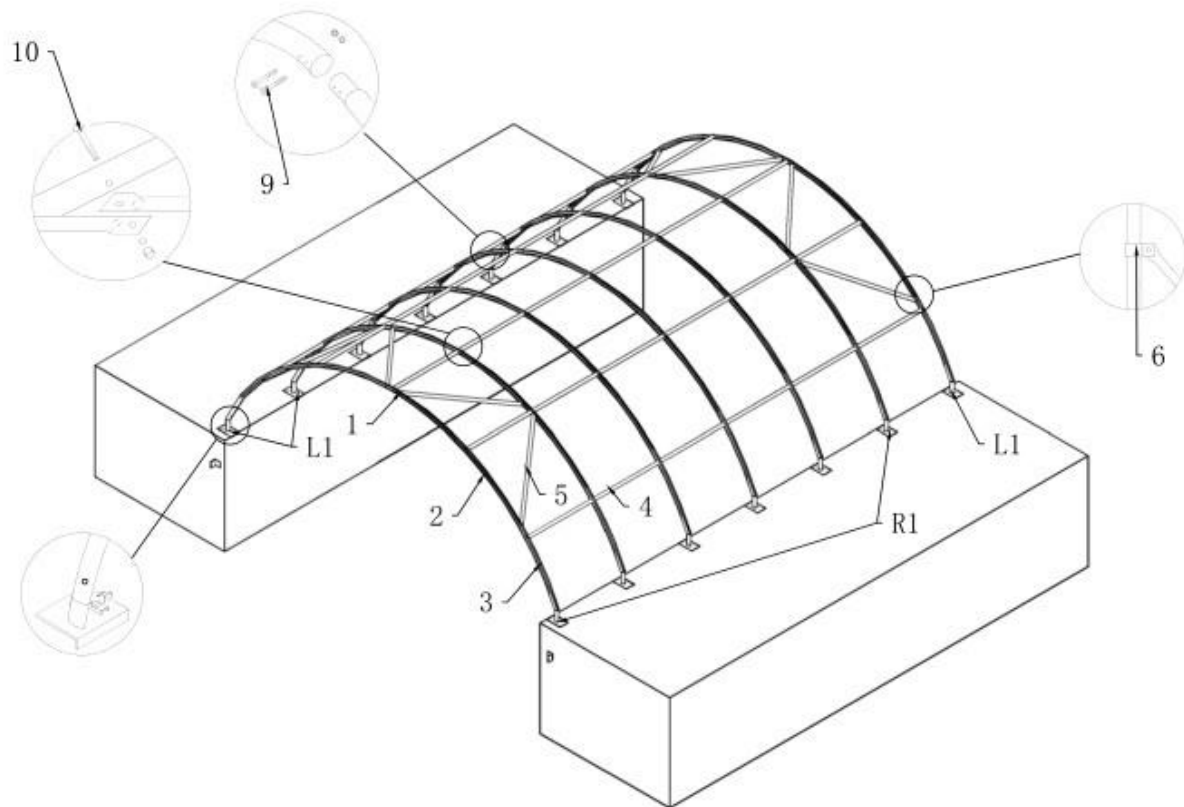

Figure 2
- 1.As Figure 2 shown find Top bent tube (part code 1), Middle bent tube (part code 2) and Sidewall bent tubes (part code 3). To connect them by Screw M8x70 (part code 9) , which makes one group of arches. Please NOTE the direction of the screw. DO NOT install the screws on the top of the truss where the fabric will rest.